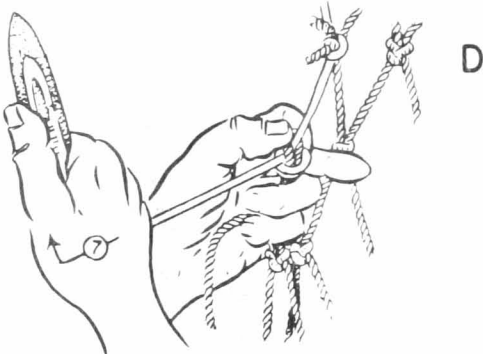
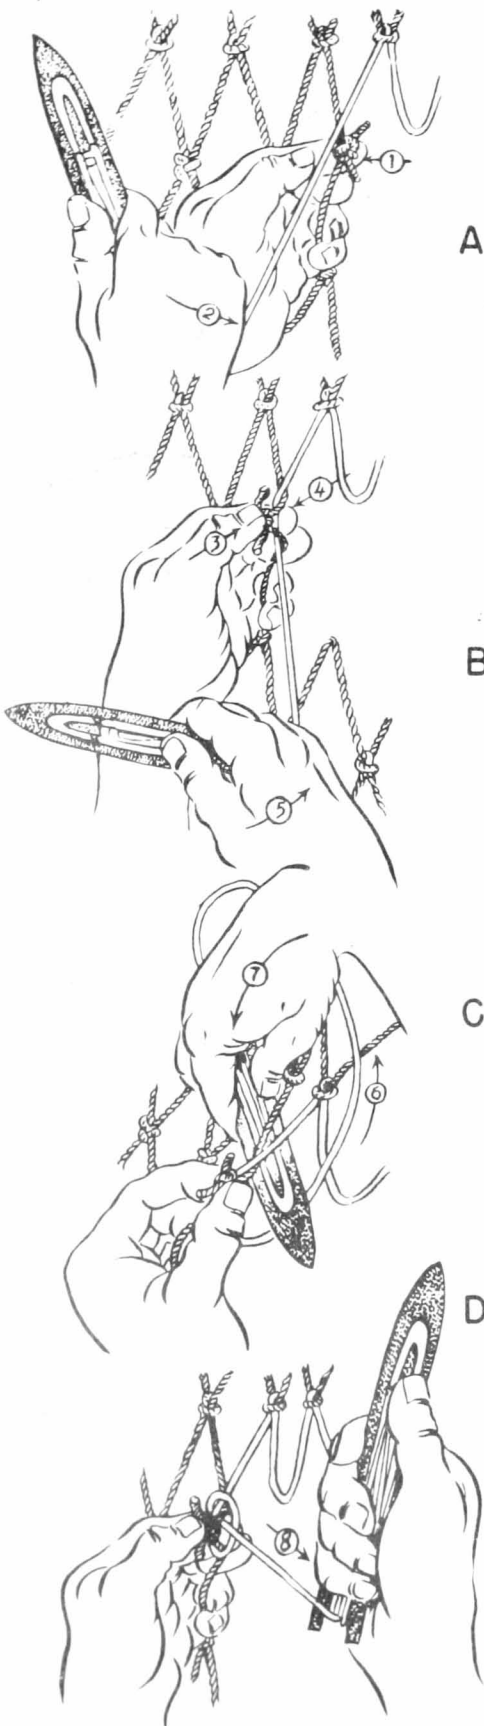

FIG. 29 - PICK-UP KNOT
FIG. 33 - SIDER ON THE LEFT
and mend from right to left. First the needle is shuttled through the pick-up mesh (5), (also see Figure 29), and then through the half mesh (6), (also see Figure 31), through another half mesh (7), and then downward to the sider on the left (8), (also see Figure 33), which is the indicator to reverse again and mend from left to right. Now the needle is shuttled through the pick-up mesh (9), (also see Figure 35), then through the half mesh (10), (also see Figure 25), and then downward to the finishing three-legger (11), (also see Figure 37). This completes the mending.